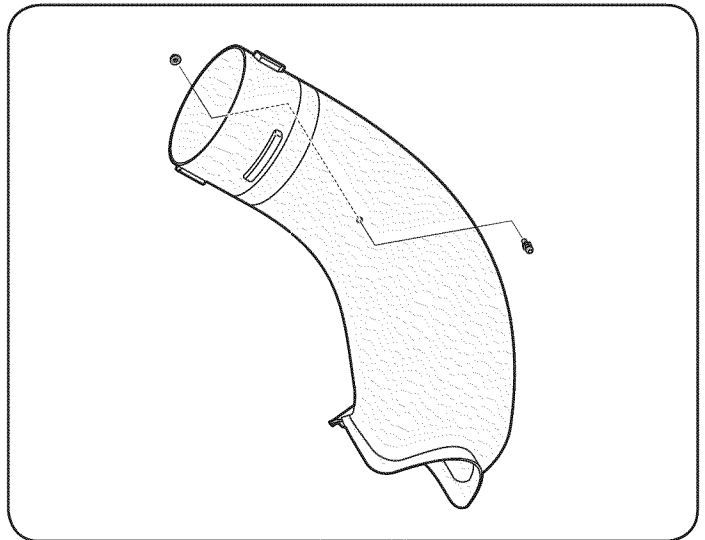

Figure 19
12. Install the grass-catcher pin (711-04069) from hardware pack 689-00092B into the hole provided in the upper portion of the chute elbow and secure with a flange lock nut (712-3027). See Fig. 19.